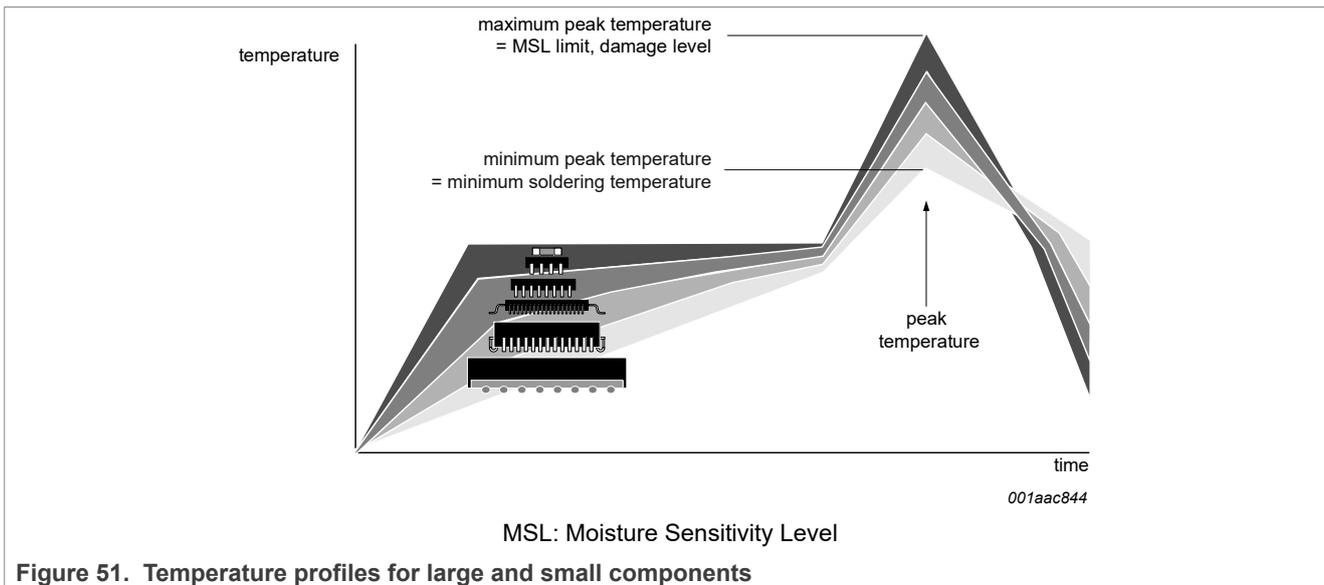

Figure 51. Temperature profiles for large and small components
- Lead-free versus SnPb soldering; note that a lead-free reflow process usually leads to higher minimum peak temperatures (see Figure 51) than a SnPb process, thus reducing the process window
Studies have shown that small packages reach higher temperatures during reflow soldering, see Figure 51.